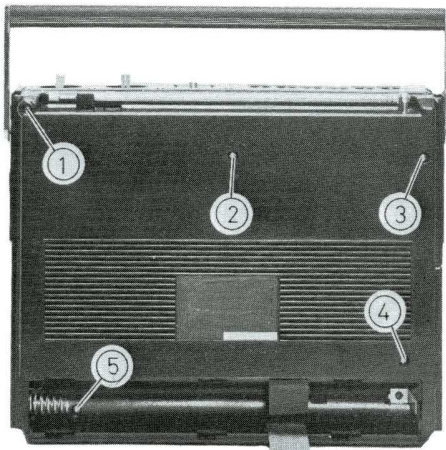

Fig. 12
a. Removing the rear cabinet (Fig. 12)